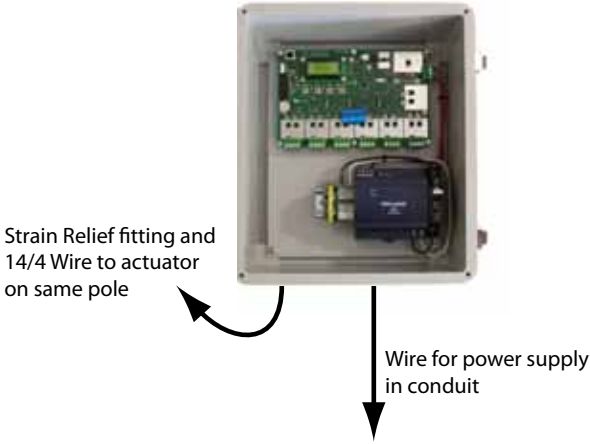

Fig. 2 Wiring to control box for single tracker.
- Complete the wiring to the actuators according to Figs. 2, 3, and 4. The recommended wire for actuator hookup is Olflex TC 14/4. The advantages of this wire include small overall diameter, fine stranding for flexibility, sunlight resistance, and ability to be direct buried.